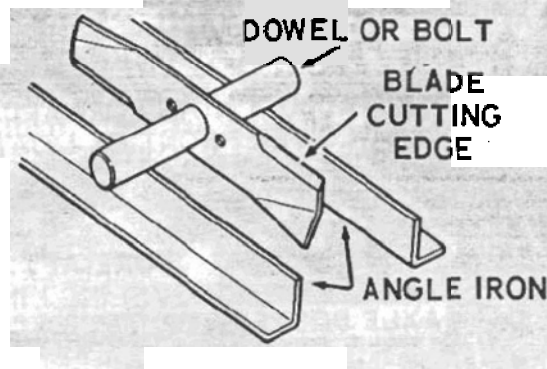

Figure 12.
10. Balancing Blades: See Figure 12
After a blade is sharpened, check it for balance by inserting a dowel or bolt in the center hole and place between two level edges as shown in Figure 12. A balanced blade will center itself so the cutting edges are parallel with the edges.